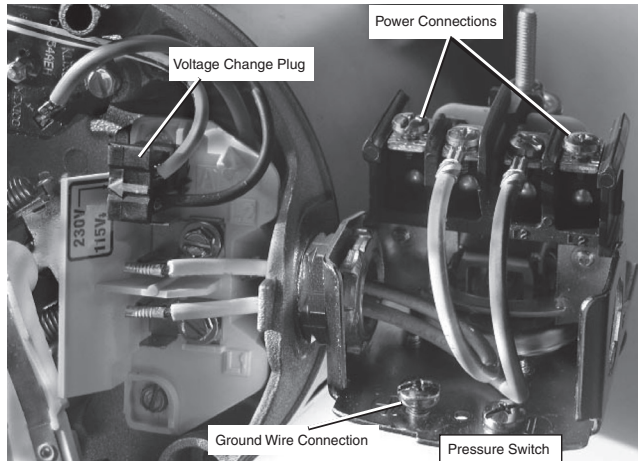

Figure 6 - Voltage set to 230 V, Plug Type
4. Attach the incoming power leads to the two outer screws on the pressure switch as shown in Figure 6.
5. Attach the ground wire to one of the grounding connections, shown in Figure 6.
1. Connect the ground wire first as shown in Figure 6. The ground wire must be a solid copper wire at least as large as the power supply wires.
4. Connect the power supply wires to the pressure switch as shown in Figure 6.